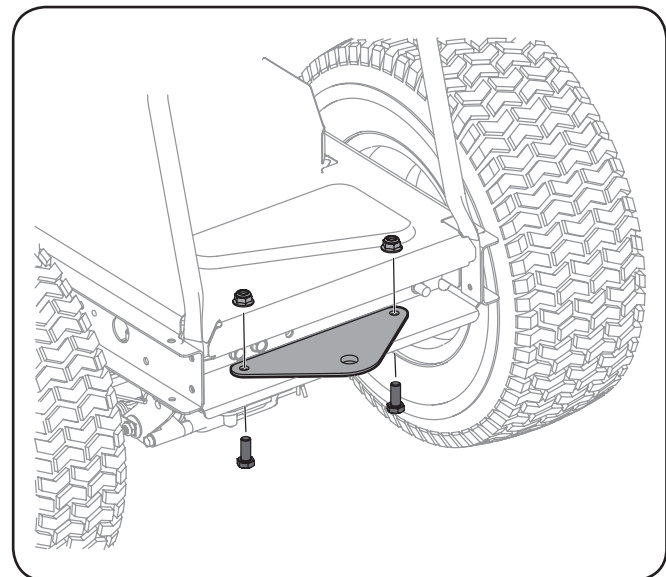

Figure 3-9
- Position the hitch plate with the flat side up, as shown in Fig. 3-9. Secure using two bolts and hex nuts included in the hardware pack.